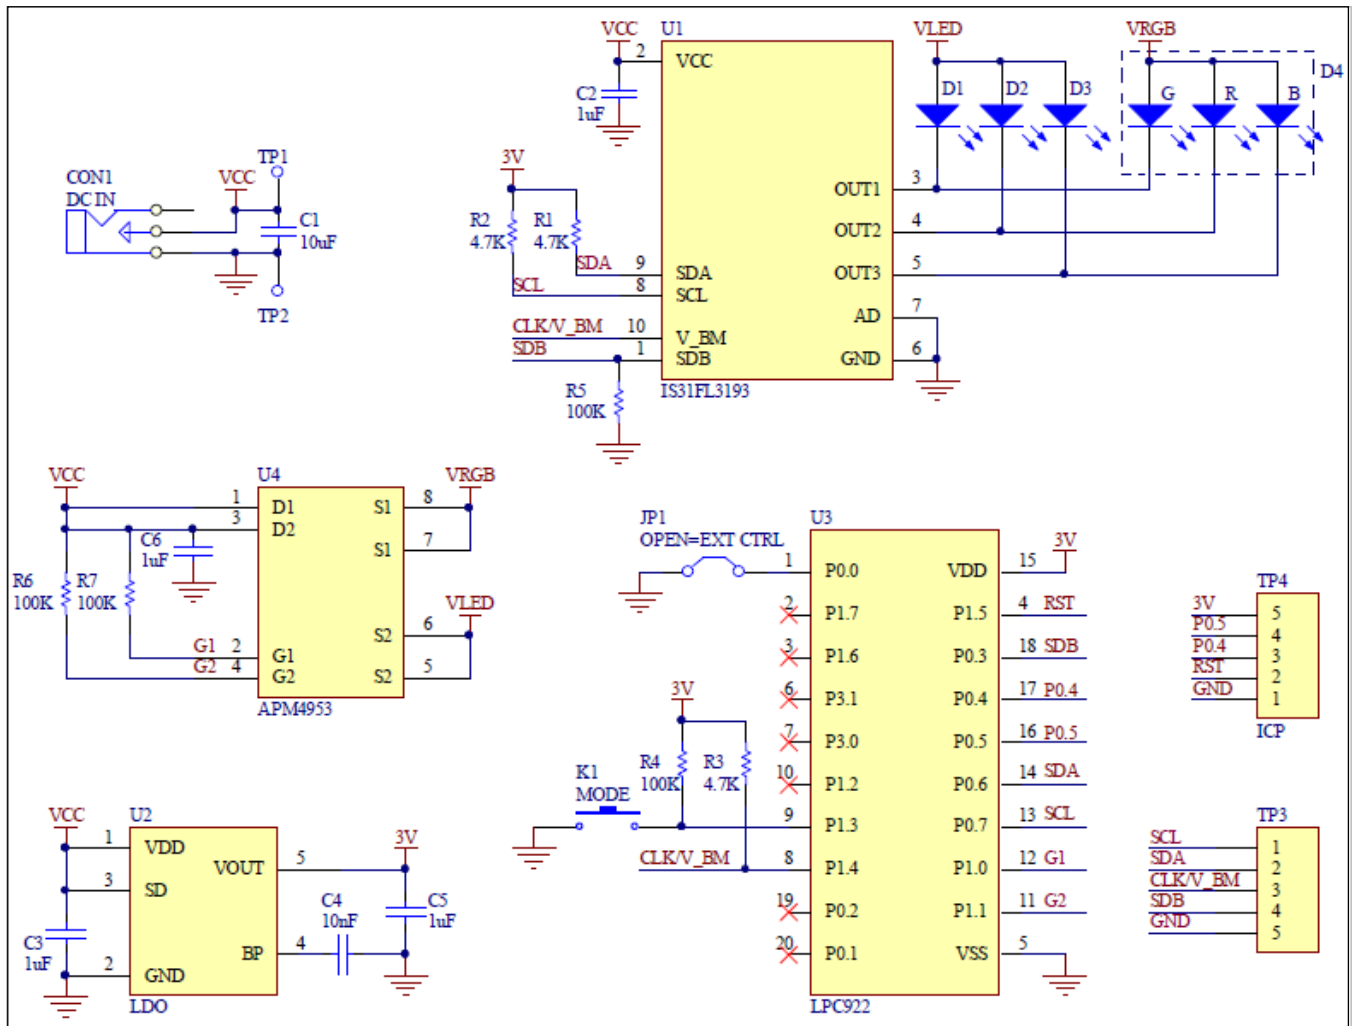

Figure 2: IS31FL3193 Application Schematic
*Bill of Materials, refer to Figure 2 above.*